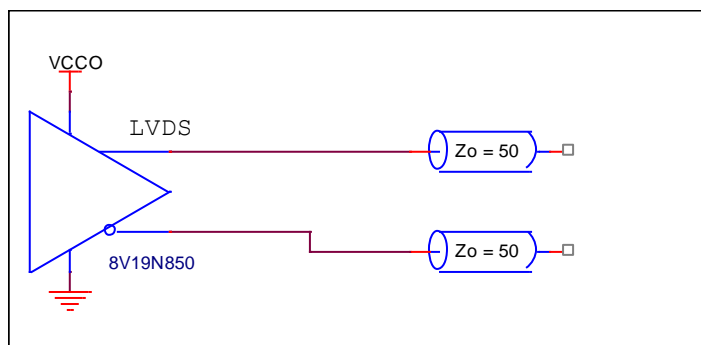

Figure 3. LVDS Driver Example
- Figure 3. LVDS Driver Example2